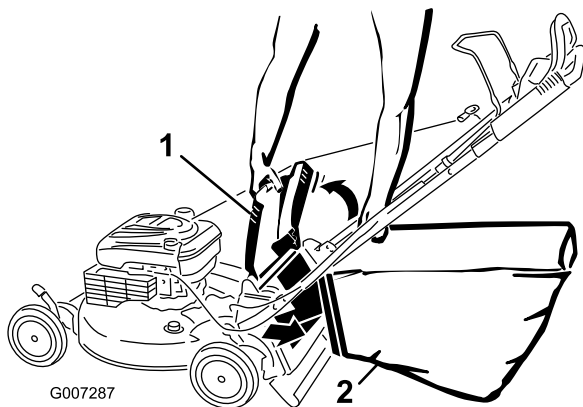

Figure 31
4. Hang the upper front edge of the bag on the notches (Figure 31).